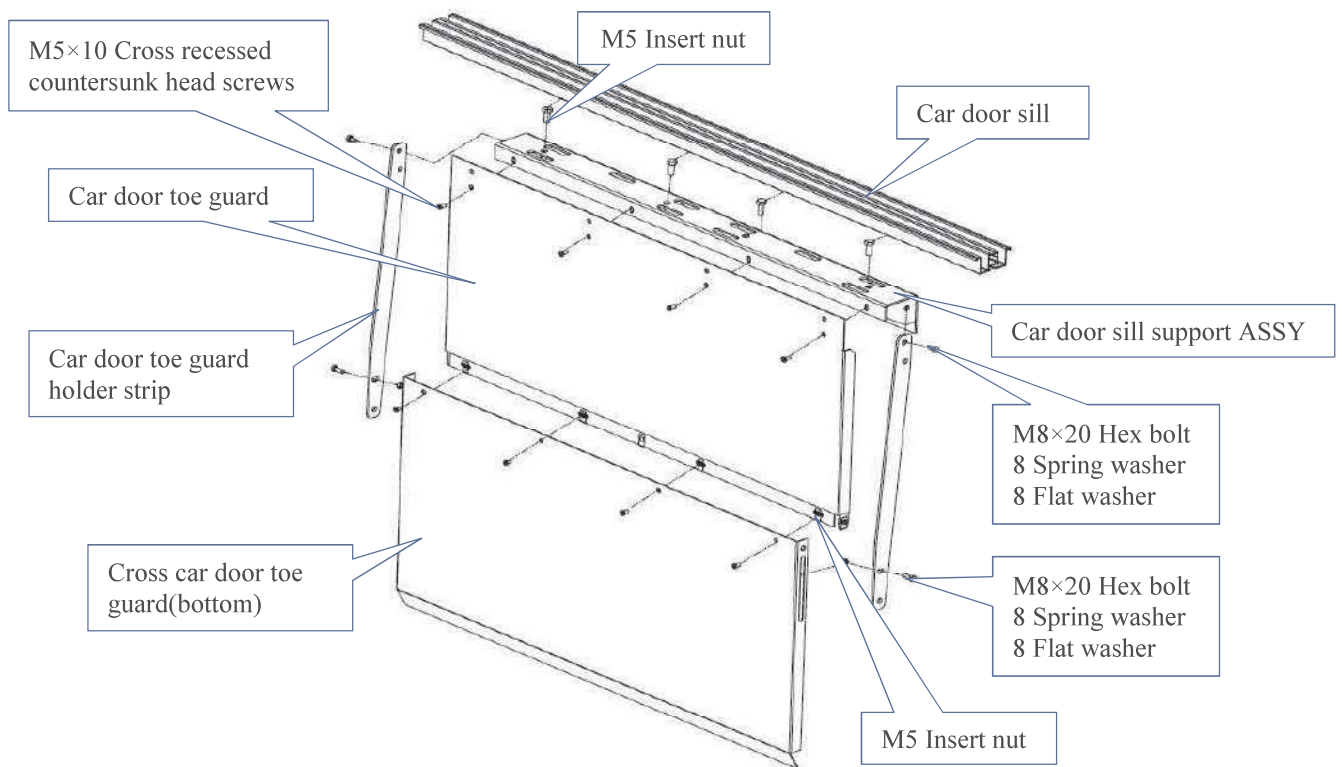

Figure 5-2-4 The connection between the car door toe guard and the sill bracket
- 3) The connection between the car door toe guard and the sill bracket refer to Figure 5-2-4